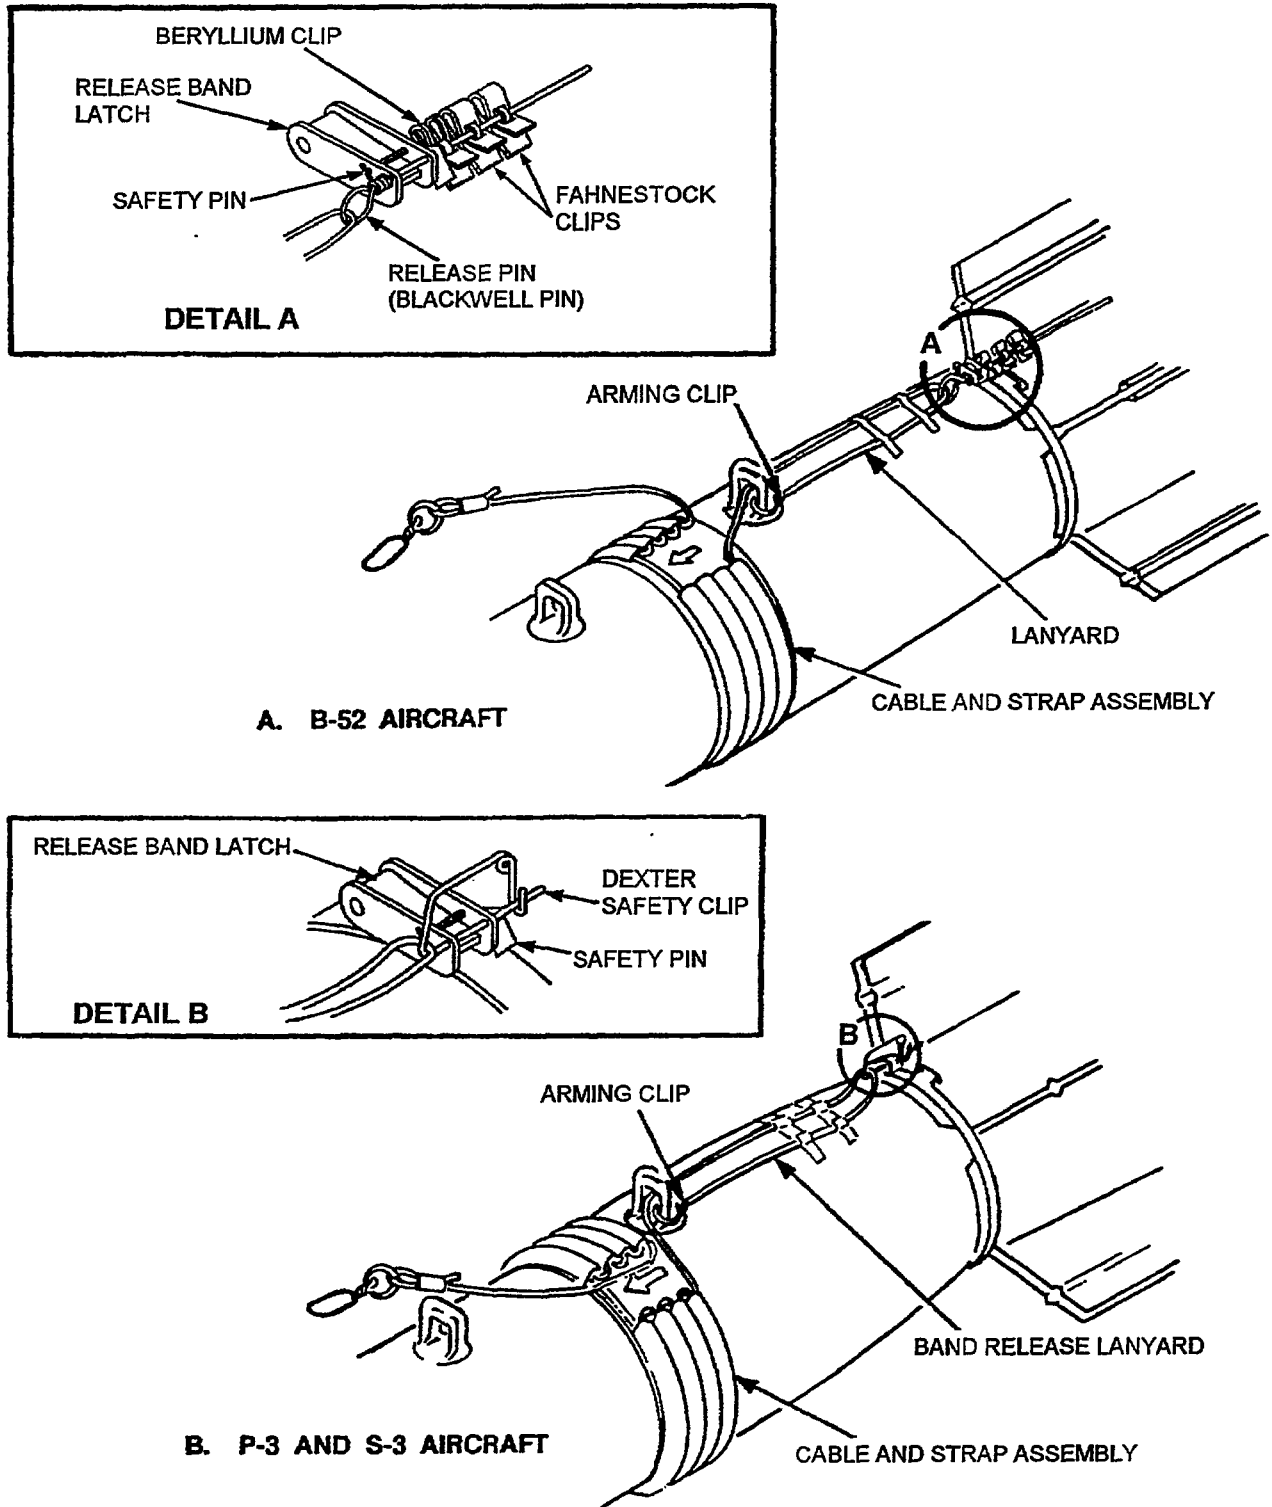
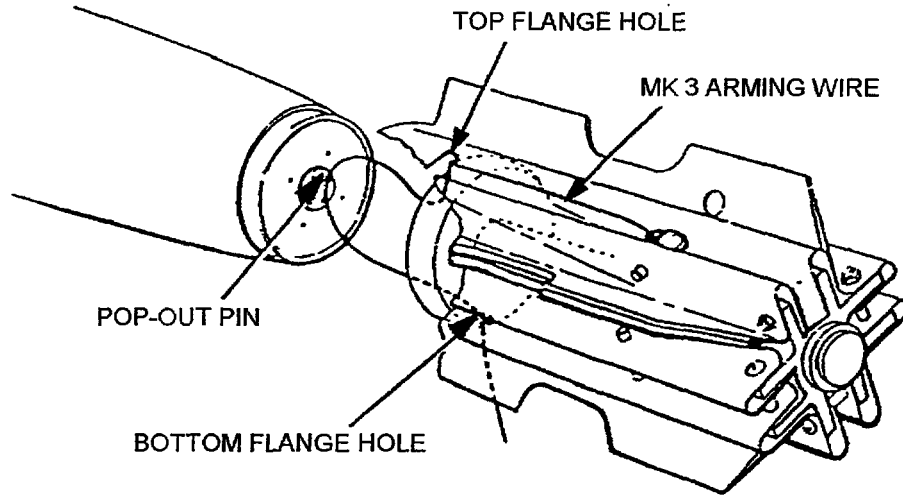

Figure 5-2A. Cable and Strap Assembly
Figure 5-2B. Arming Wire and Fin Mk 15 Removal
- b. If required, remove cable and strap assembly as follows (Figure 5-2A):
- (1) Remove tape securing lanyard to bomb; then cut tie-down strap securing arming clip lanyard.
- (2) Remove arming clip from lanyard.
- (3) Pull lanyard through aft suspension lug, through safety clip, and again through aft suspension lug. Remove Dexter safety clip from release band latch.
- (4) Loosen fastener (Velcro) pads and pull end of strap through tension buckle and remove cable and strap assembly. If cable and strap assembly have been cut, reject.
- c. Cut arming wire flush with top and bottom of fin and discard arming wire (Figure 5-2B). Remove arming wire from link pin and discard.